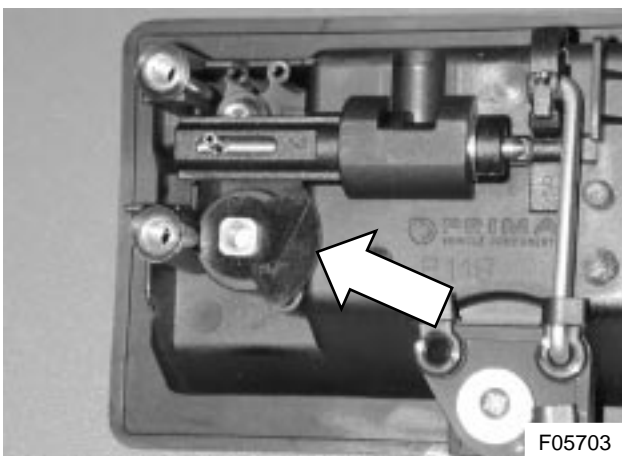

Figure 2: Lower cam
- 4) Take note of the installation of the lower cam (see Figure 2). Remove the lower cam. Take care not to lose the ball and spring underneath this cam.